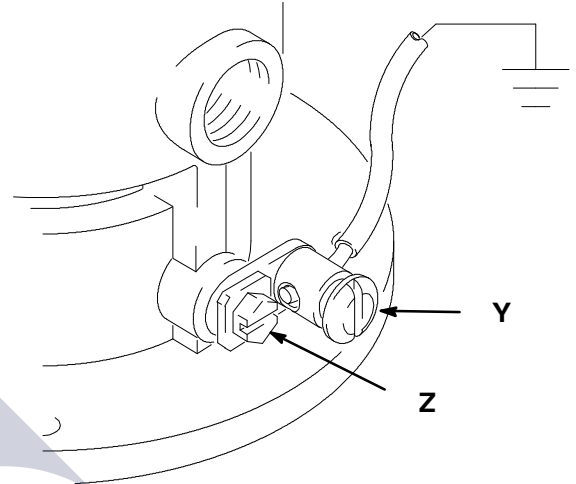

Fig. 2
**To ground the pump,** remove the ground screw (Z) and insert through the eye of the ring terminal at end of the ground wire (Y). Fasten the ground screw back onto the pump and tighten securely. Connect the other end of the ground wire to a true earth ground. See Fig. 2. *To order a ground wire and clamp, order Part No. 222011.*